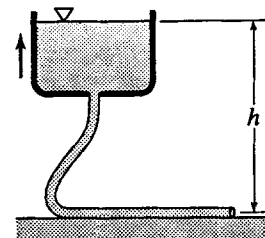

Figure P12.9
12.9 Attached to the tank in Fig. P12.9 is a flexible 1.5-in-diameter hose ($f = 0.020$) 250 ft long. The tank is hoisted in such a manner that $h = 25 + 2t$, where h is the head in feet and t is the time in seconds. (a) Find as accurately as you can the flow rate at $t = 10$ sec. (b) Suppose h were decreasing at the same rate. What would be the flow rate when $h = 45$ ft?